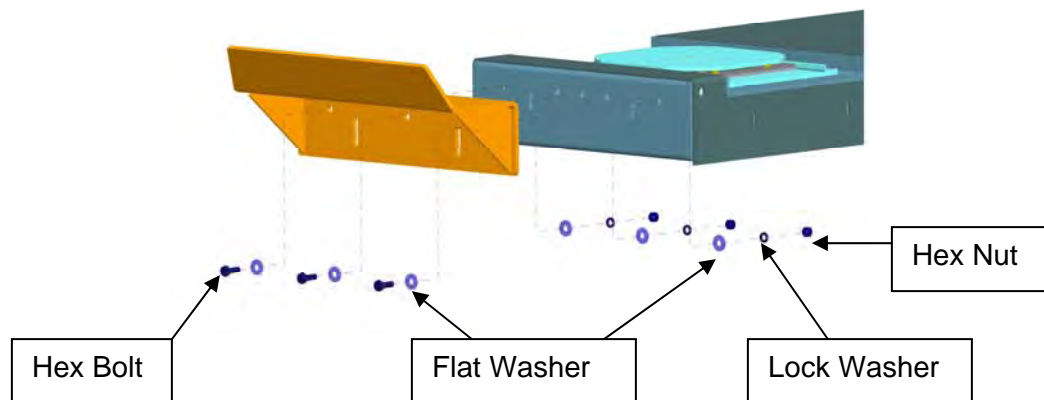

Figure 24 – Runway Stops Installation
1. Install the front runway stops located in the accessory box using the ½" hex bolts, washers, lock washers, and hex nuts located in the hardware kit. (See **Figure 24**)